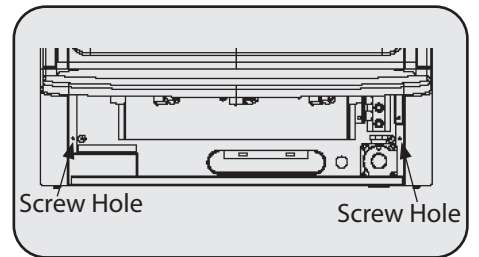

Figure 10
1. Locate two bottom mounting holes. These holes are near bottom on back panel of heater. See Figure 10.